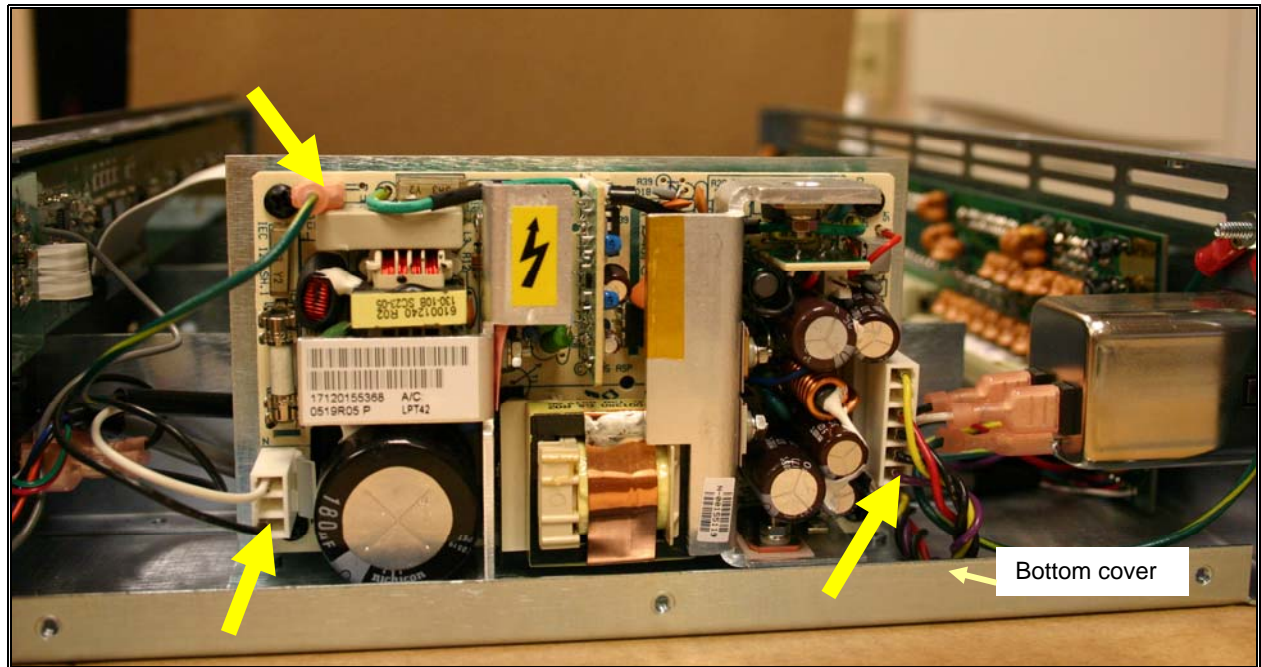

Figure 3. Disconnect Interconnect Cables from Power Supply Board
- Carefully disconnect all three interconnect cables to the power supply board, indicated in Figure 3. Then remove the power supply board from its bracket. You will need to re-use the bracket for the new board.
- Reconnect all three interconnect cables, shown in Figure 3.
- Verify the cable connections shown in Figure 3.
- Reinstall the XD10P top cover, using the screws saved in Step 2. Ensure that the wires are properly routed, as shown in Figure 3. Verify that no wires are crushed when installing the top cover.